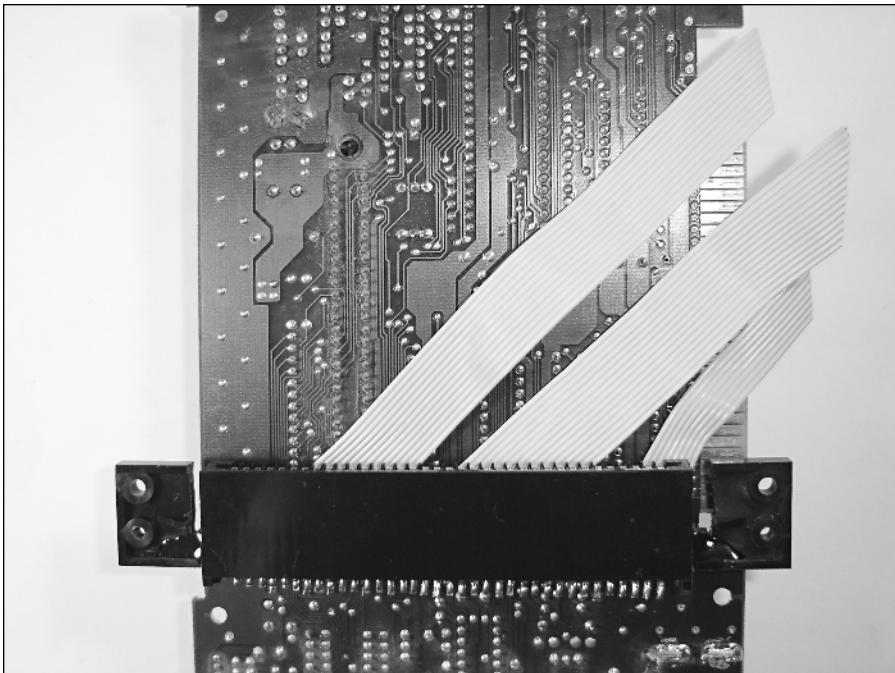

FIGURE 8-14: How the cartridge connector and wires are placed in relation to the NES board.
4. These wires should be cut at 45-degree angles. The longest wire should be 6" from end to end, and the shortest wire about 3". The rule of thumb is that if you lay the cartridge connector on the back of the NES board as shown in Figure 8-14, the wires should at least reach the cartridge connector, if not go past it a little. The NES cartridge connections are on the right side of the photo.
The cartridge connector does not attach to the side of the board as shown in Figure 8-14—this photo only shows a length reference.